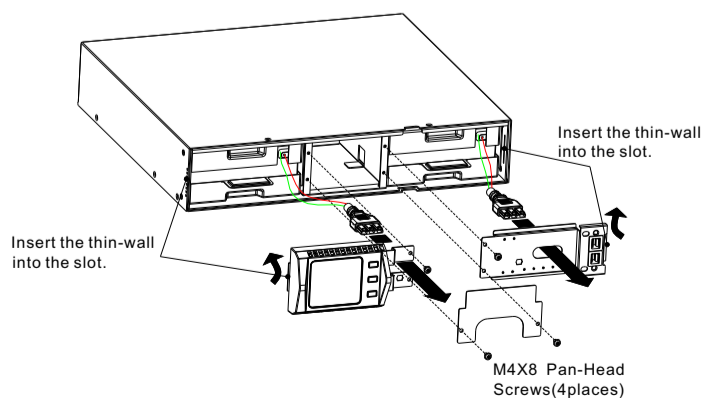

Fig.6 Installation for battery pack baffle
5. Hold the middle of the new battery pack, insert it. Make sure that the whole battery pack is in position (see Fig.6)